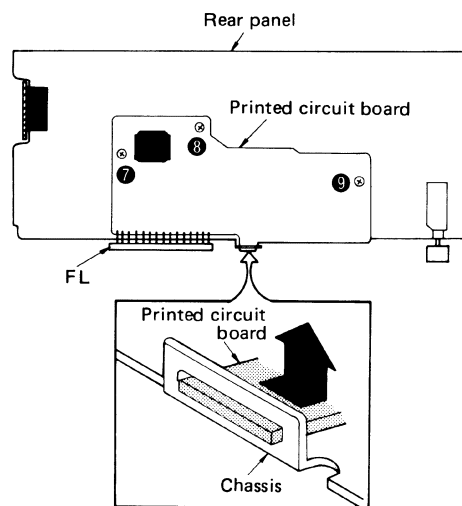

Fig. 2
- 4. Remove the 3 setscrews (Fig. 2 : ⑦ ~ ⑨) of the printed circuit board.